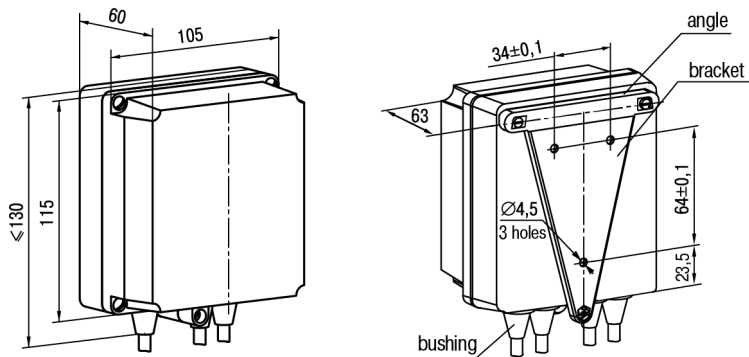

Figure 4.2 – Dimensions of H housing
1. Fasten the bracket with three M4 × 20 screws on the surface intended for mounting the Device (see *Figure 4.2*).